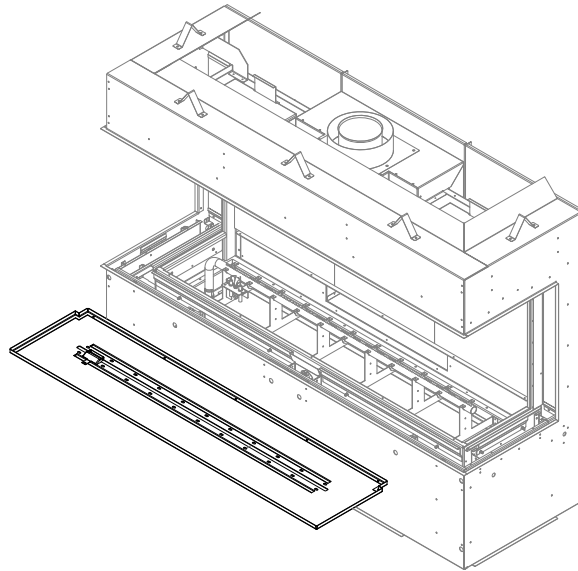

Figure 4.19 - Media Tray and Burner Tube Removal
5. Remove all the sheet metal screws around the perimeter of the media tray and all sheet metal screws along the center of the burner. Remove the firebox media tray and burner tube. Figure 4.19.